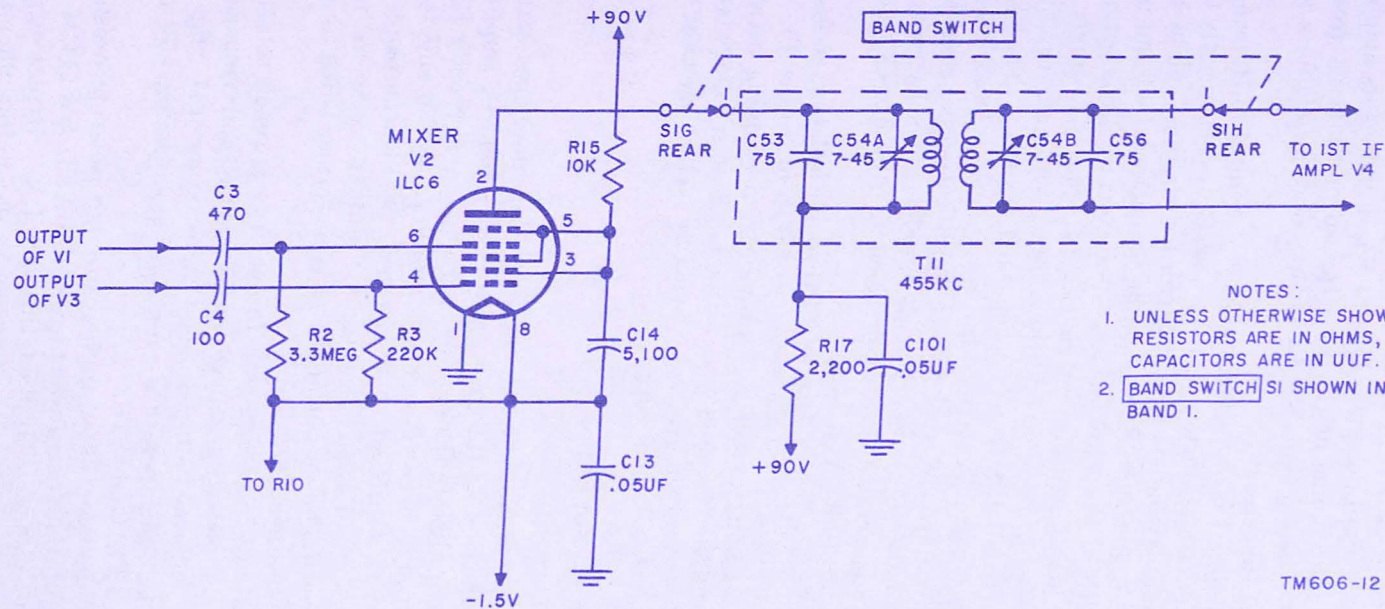

Figure 12. Mixer.
e. Plate voltage for V3 is applied through decoupling resistor R16, rf coil L1, voltage dropping resistor R4, switch section S1E rear, the tuned circuit coil, and switch section S1F rear. Screen voltage is applied through resistor R16. Rf coil L1 and bypass capacitor C6 prevent rf from entering the B+ supply. The output of hf oscillator V3 is coupled to the first grid (pin 4) of mixer tube V2 through coupling capacitor C4 (fig. 12).
(fig. 12)